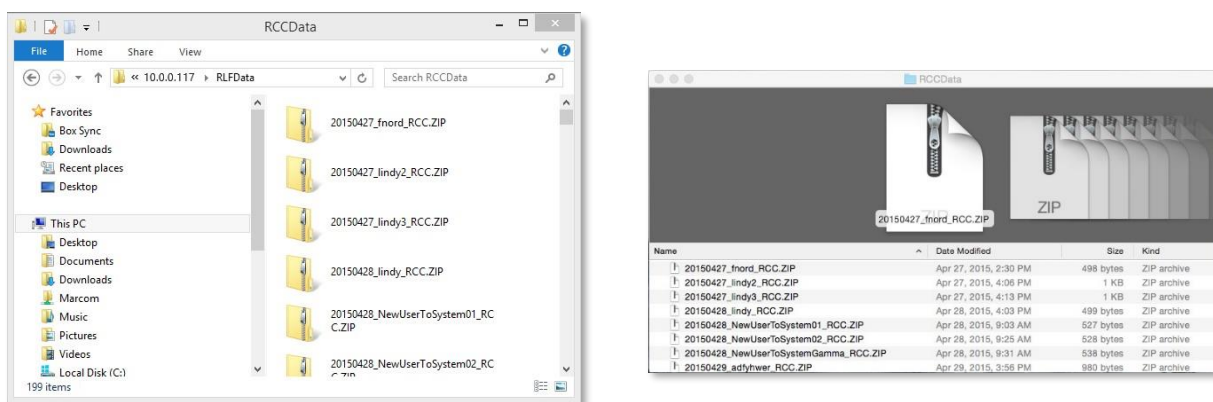

Figure 105: The contents of the 'RCCData' folder when using File Explorer (left) or Finder (right).
4. Open the **RCCData** folder. The RCCData folder will open and display the available files (**Figure 105**).